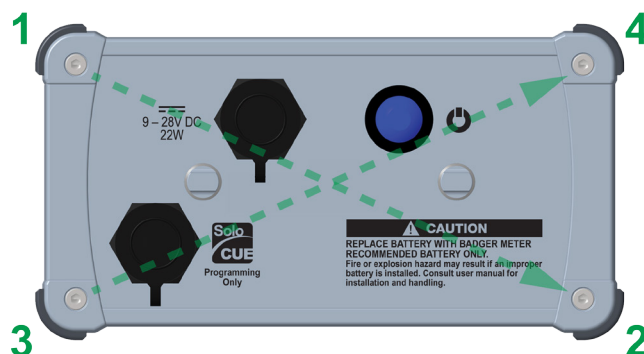

Figure 25: Sequence for screw reinstatement
- b. Reinstall the four screws in the sequence shown in Figure 25 and lightly thread. For the first pass, torque to 2 inch-pounds. For the final pass, torque to 2.7–3.1 inch-pounds. Be sure not to cross-thread or overtighten.